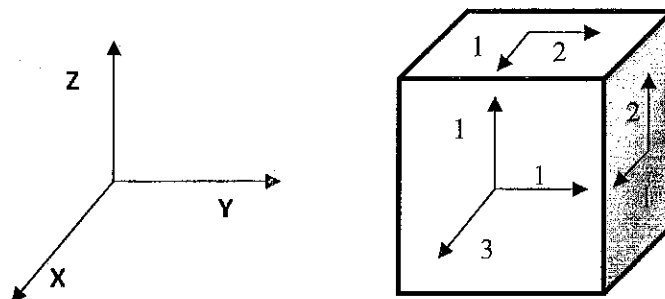

Figure Q1
- (ii) A stress field (in  $\text{N/mm}^2$ ) of a certain point of loaded concrete member is shown in Figure Q1. Global coordinates are X, Y and Z.